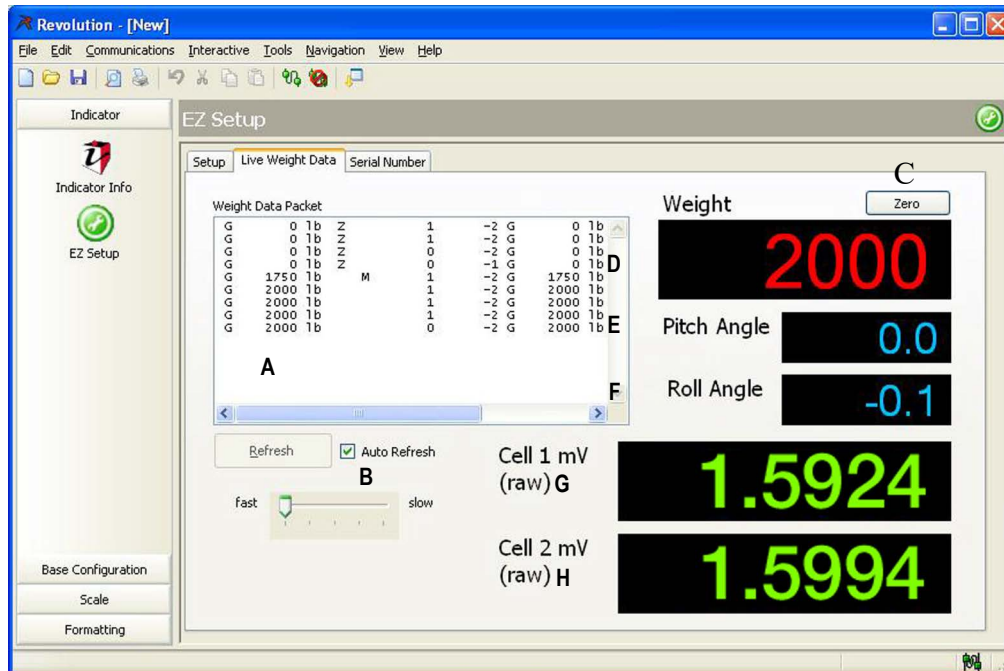

Figure 4-50. Revolution Live Weight Data screen.
13. Select the **Live Weight Data** tab (Figure 4-50).
NOTE: Weight data packet screen shows output format of CLS-M. Other displays include weight, pitch angle, roll angle, cell 1 & 2 mV. (Figure 4-50). This is the information that will be sent to the customer supplied handheld device when attached through Bluetooth.